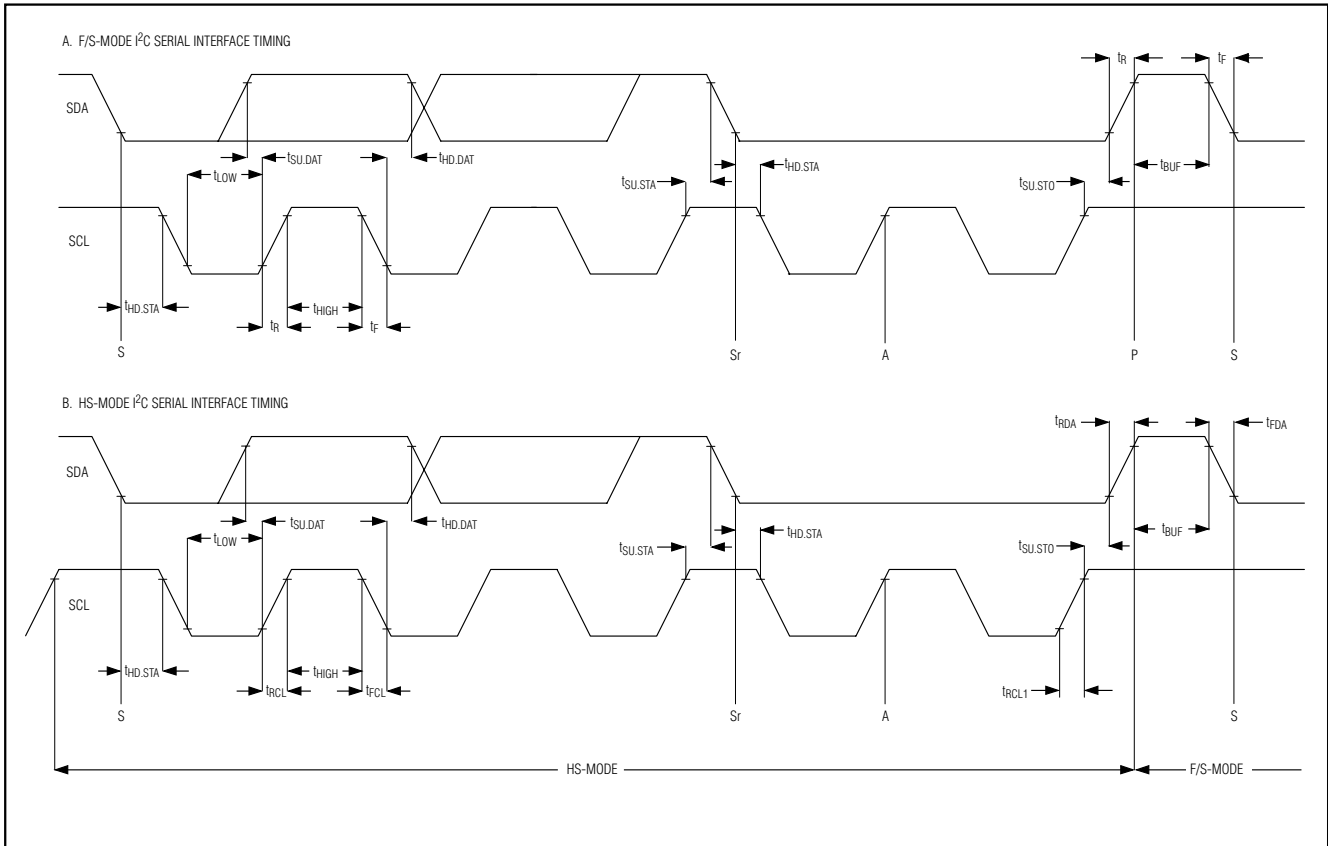

Figure 1. I2C Serial Interface Timing
**Note 12:** A master device must provide a data hold time for SDA (referred to VIL of SCL) in order to bridge the undefined region of SCL's falling edge (Figure 1).
At power-up, the MAX1036–MAX1039 bus timing defaults to fast mode (F/S-mode) allowing conversion rates up to 44ksps. The MAX1036–MAX1039 must operate in high-speed mode (HS-mode) to achieve conversion rates up to 188ksps. Figure 1 shows the bus timing for the MAX1036–MAX1039’s 2-wire interface.